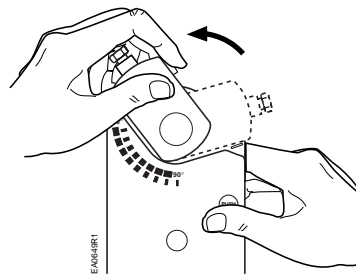

Figure 23.
- b. Hold down the **PUSH** button and rotate the shaft adapter to the left until it stops. See Figure 23.